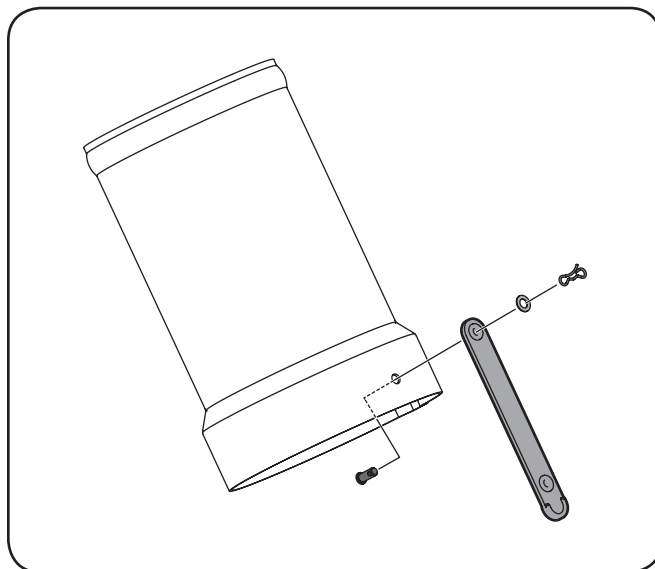

Figure 4-19
2. Attach the rubber strap (723-04008A), from hardware pack 689-00326, to the upper chute tube using the clevis pin (711-05063) from the same hardware pack. Secure with a flat washer (736-0204) and bow tie cotter pin (714-04040) supplied in the same pack, as seen in Figure 4-19.